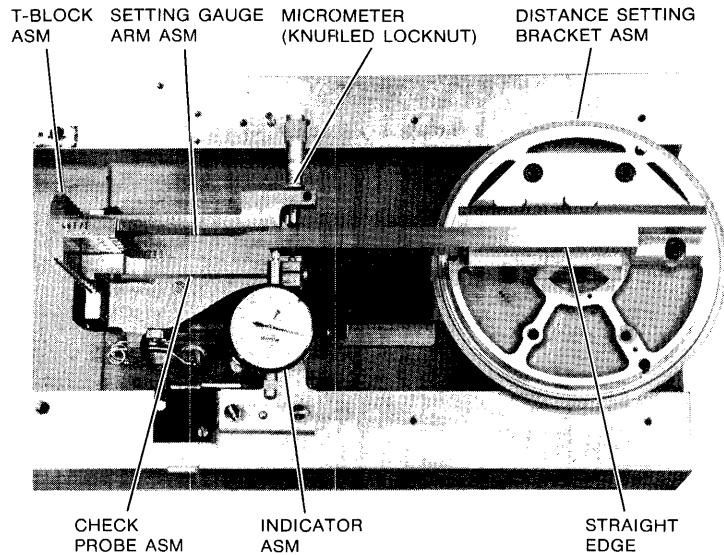

FIGURE 4-20. WAY ADJUSTMENT TOOLS ON FULLY RETRACTED WAY
2. Referring to Figure 4-20, mount the distance setting bracket assembly on the drive spindle; the micrometer should be set at 0.200 or higher. Make certain the mating surfaces of adapter and spindle are free of foreign particles.
5. Mount the way check probe in the same manner, on the opposite side of the T-block (refer to Figure 4-20). The ball attachment on the micrometer and the spherical point on the way check probe should be at an equal height 0.1 inch from the bottom of the straight edge. Torque the four screws retaining the check probe using the torque wrench at 6 in-lbs.
6. Loosen the knurled lock nut (Figure 4-20), and **very gently** crank the micrometer head on the setting gauge arm until both spherical points touch the straight edge. This must be done gently to prevent gauge deflection. The carriage must be in the fully retracted position. Be advised that **the micrometer ball attachment comes off easily**.
9. With a finger placed behind the T-block to avoid jarring, move the carriage from its fully retracted position (Figure 4-20) to its fully extended position (Figure 4-21) to verify that: